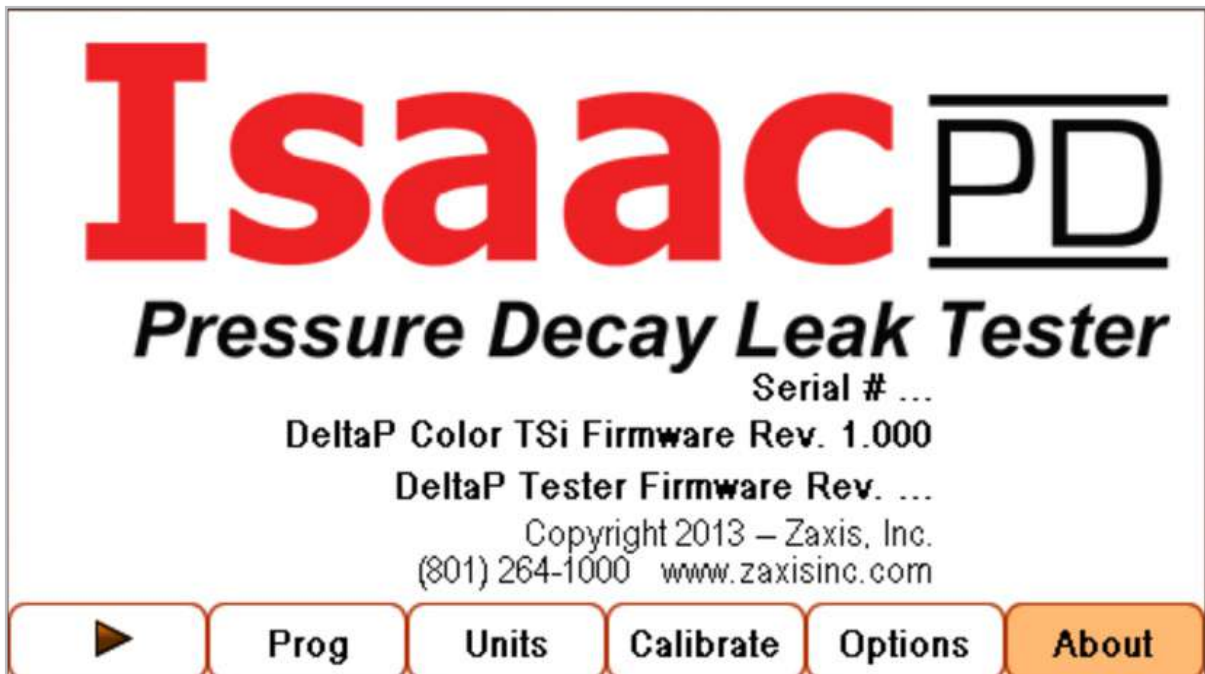

Fig. 3. About Screen for the Isaac PD.
-  **About** — Lists the firmware revision level, serial number, and contact info for Zaxis. (see Fig 3.)